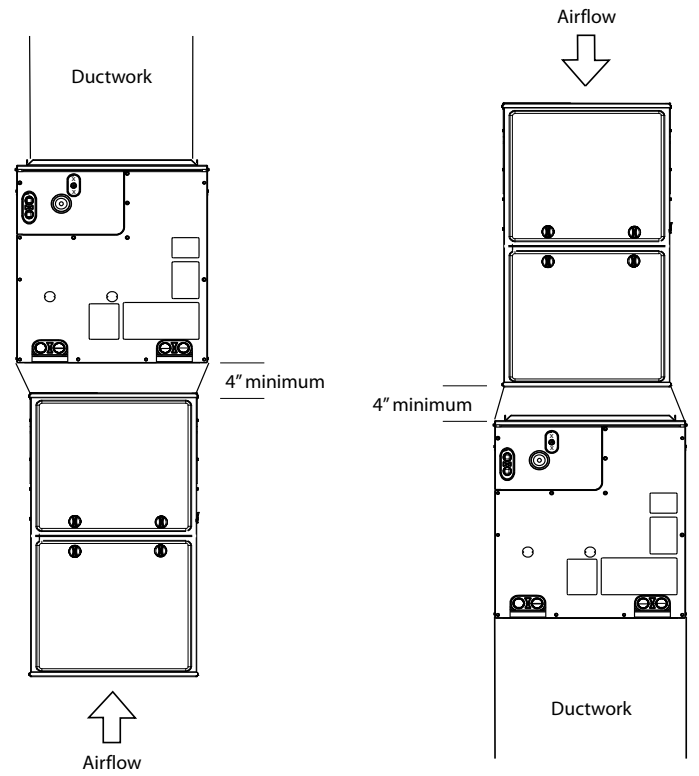

Fig. 3 – Adapter(s) Installation When Coil is Larger than Furnace (recommended) A221122
3. When installing wider coil on narrower furnace, it is recommended to use a transition adapter (Fig. 3).